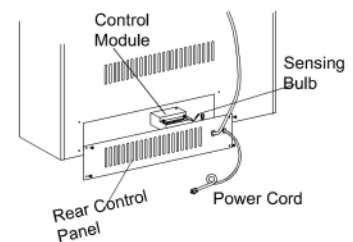

Figure 22- Control Model
2. Remove two screws and hex nuts, take out the control module. When installing, reverse the steps above. (See Figure 22 and Figure 25)